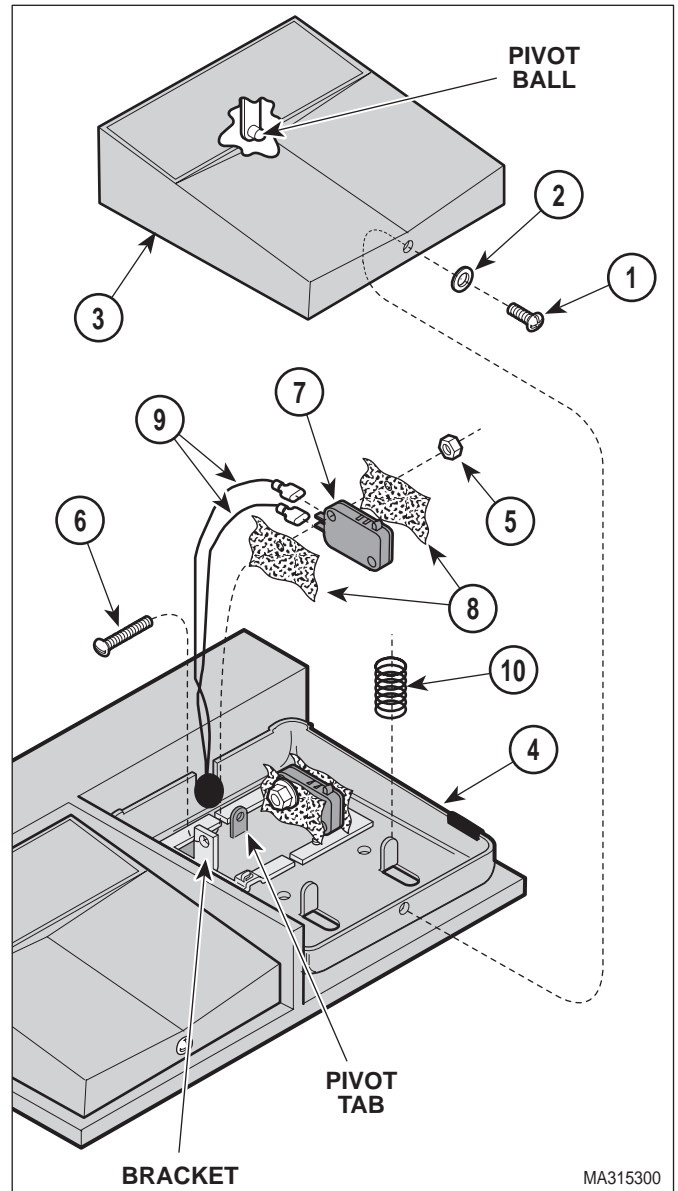

Figure 4-24. Typical Foot Pedal Footswitch Removal / Installation
- (1) Remove screw (1, Figure 4-24), lockwasher (2), and footswitch pedal (3) from switch mount (4).